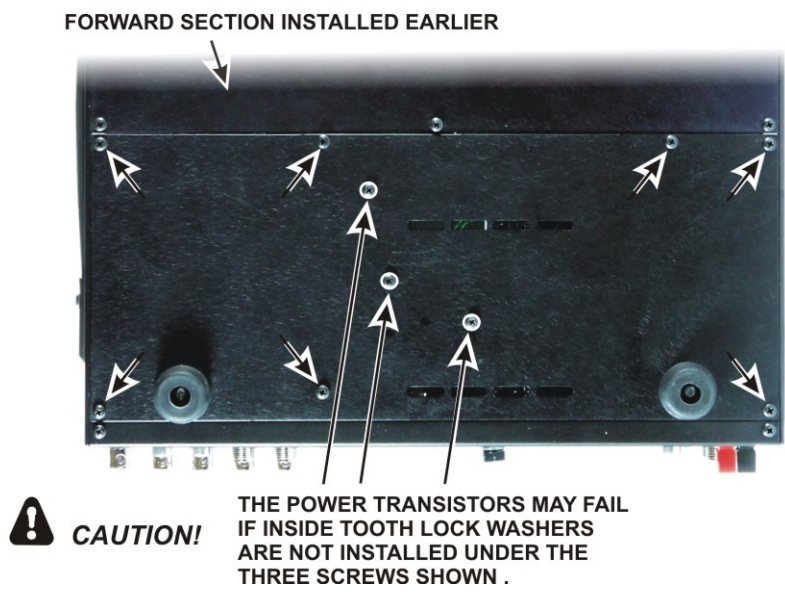

Figure 92. Checking Power Transistor Mounting Hardware.
- Install the rear bottom cover section as follows (see Figure 92):
- Start three 4-/40 1/4" (6.4 mm) black pan head screws (SS) into the transistors through the holes near the center with a #4 inside tooth lock washer under each screw head. Do not tighten the screws yet.
- Start seven 4-40 3/16" (4.8 mm) black pan head screws (SS) into the remaining holes. Do not use washers.
- Inspect the bottom cover screws to ensure you have inside tooth lock washers under the three screws shown in Figure 92. **Be sure all three screws are tight.**